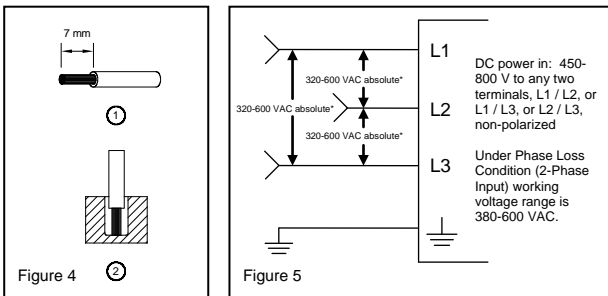

Figure 4
To secure reliable and shock proof connections, the stripping length should be 7 mm (see Fig. 4 (1)).
Please ensure that wires are fully inserted into the connecting terminals as shown in Fig. 4 (2).